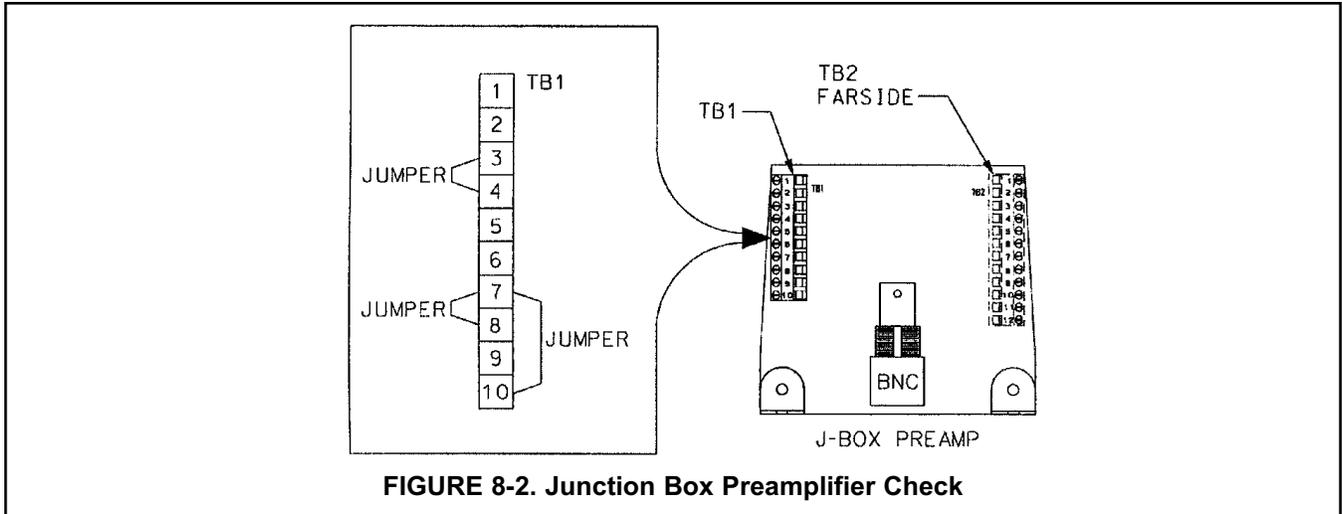

FIGURE 8-2. Junction Box Preampifier Check
A. Preamp in a junction box (Figure 8-2)
4. Install a jumper between 7 and 10, 3 and 4, and 7 and 8 (see Figure 8-2).